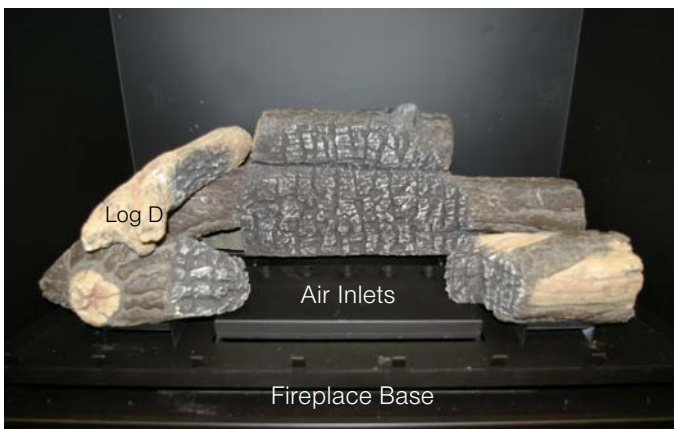

Figure 9c. Top Left Log, (Log D).
Step 5. Place Front Left log (Log D) as shown in **figure 9c**.